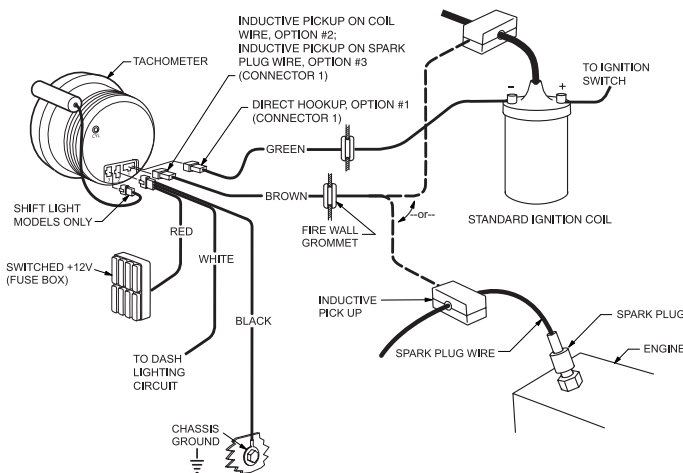

Figure 3
Power and Ground Connections (Figure 3)
1. Connect the GREEN wire to the **negative side** of the ignition coil, or to a suitable tachometer **signal port** as follows (see Figure 3):
1. Connect the Inductive Pick-Up to the Ignition Coil Wire as follows (see Figure 3):
- Connect the Inductive Pick-Up to a spark plug wire as follows (see Figure 3):